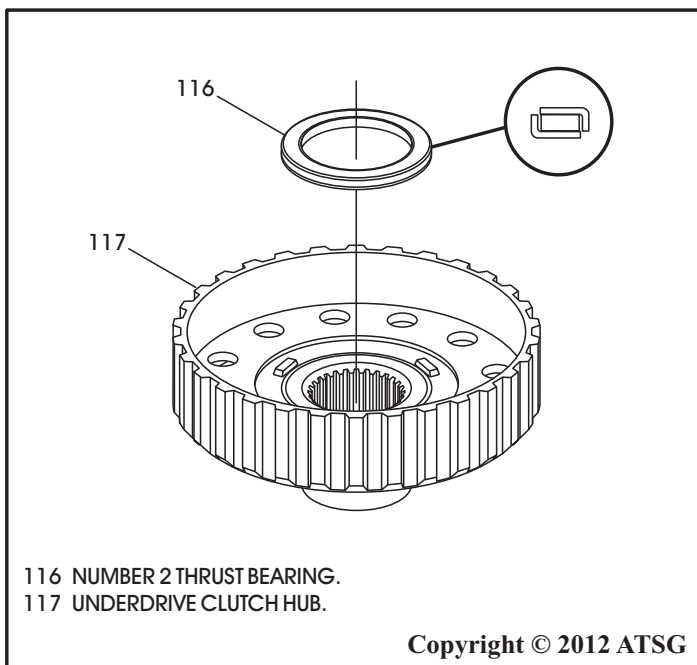

Figure 156
2. Install the number 2 thrust bearing onto the underdrive clutch hub, in the direction shown in Figure 156, and retain with a small amount of Trans-Jel®.